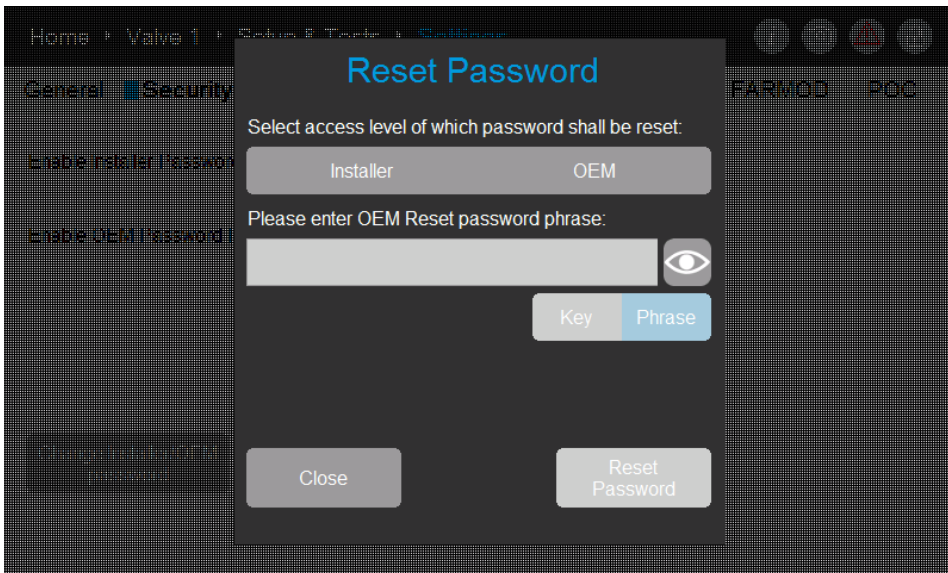

Fig. 95: Reset Password dialog box.
- b. If the user is logged out, the Password Reset dialog box is opened. Refer to Fig. 95.